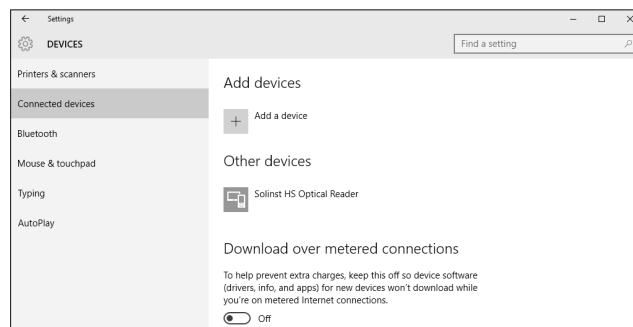

Figure 4-23 Installed Solinst USB Device
10. Once the installation is complete, this will be shown in the Devices > Connected devices Window. See Figure 4-23.